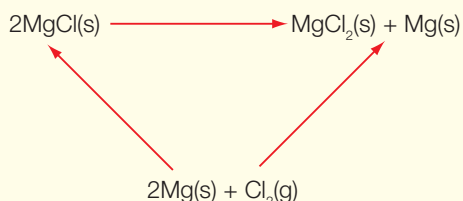

Figure 13.13◀
- 3 Using the Hess cycle in Figure 13.13, calculate the standard enthalpy change for the reaction